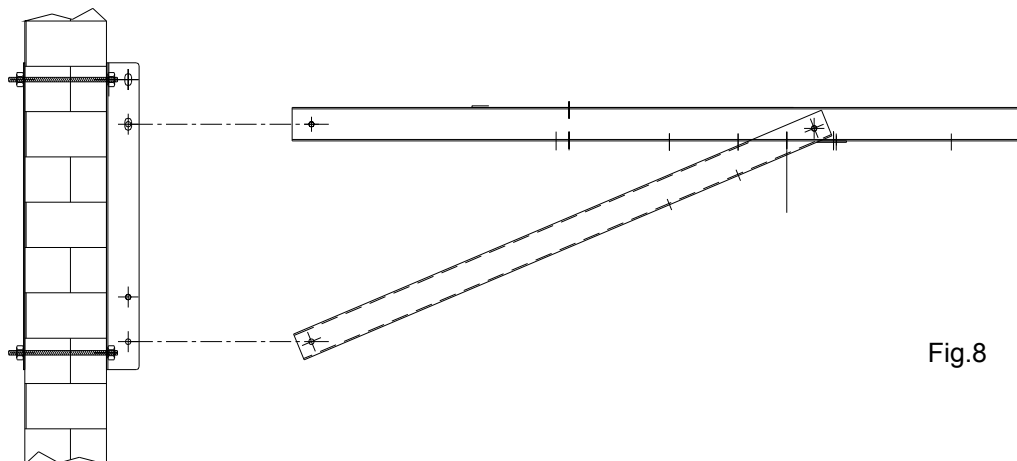

Fig.8
- ✓ Use the relevant screws and bolts (see fig.8) to join the horizontal profile and sloping profile together. Next, fasten the assembly to the vertical profiles previously fastened to the wall, using the lower pair of holes. (see fig.8).